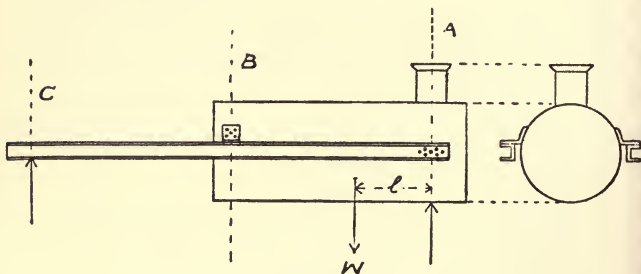

Fig. 4.
8. The horizontal boiler of a motor-waggon is carried between two parallel girders as shewn diagrammatically in Fig. 4. At the smoke-box end  $A$  the girders are riveted to the sides of the boiler, and at the other end  $B$  the boiler is carried by a pair of brackets riveted to its sides and resting on the top edges of the girders so that the boiler is free to expand. The boiler and girder frame are supported vertically under the points  $A$  and  $C$ , which are equidistant from  $B$ . Assuming that when the girders are unstressed they are just in contact with the brackets at  $B$ , prove that the shearing couple on each riveted joint at  $A$  is  $\frac{1}{8}Wl$  where  $W$  is the weight of the boiler, and  $l$  the horizontal distance between its centre of gravity and  $A$ .